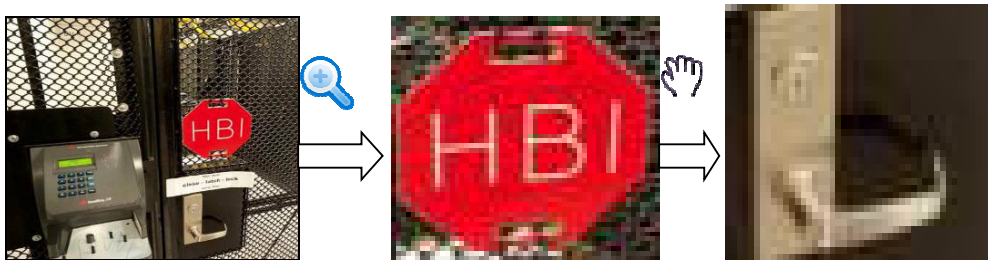

Figure 4-14
- Put the middle button at the centre of the zone you want to zoom in, and move the mouse, you can view an interface shown as in Figure 4-14.